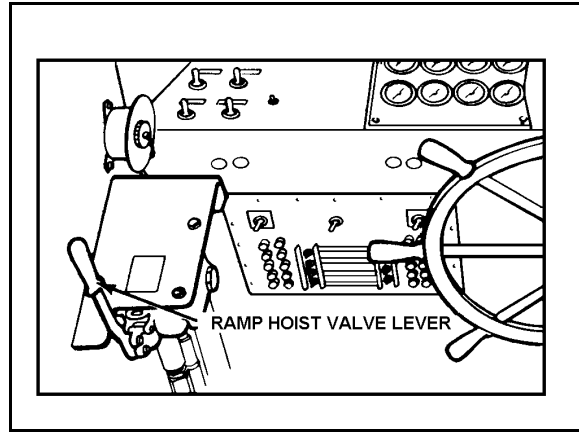

Figure 17-10. Ramp Hoist Valve Lever in Neutral Position
- **Step 2.** Put the ramp hoist control valve lever in the neutral position (Figure 17-10, page 17-8).